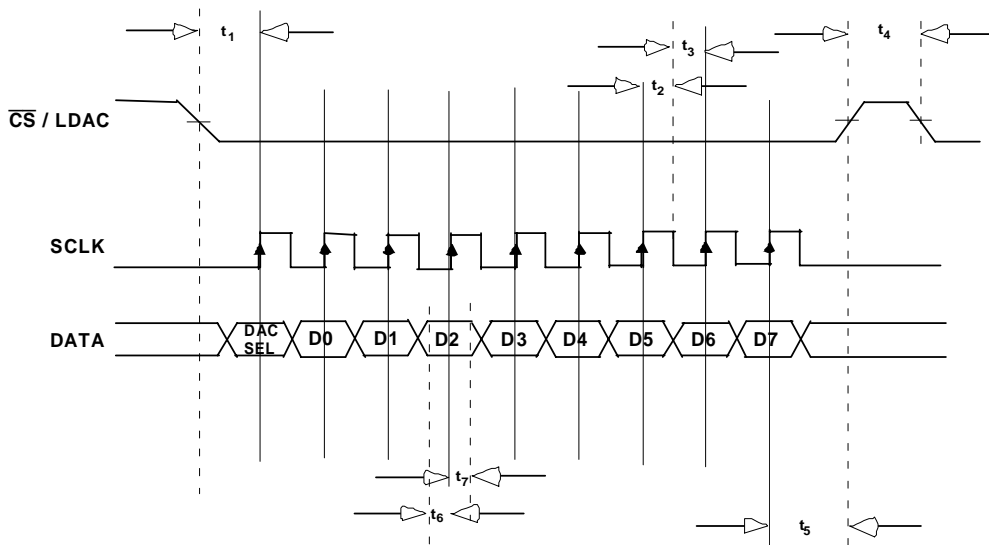

Figure 4. Serial Interface Waveforms
- See Timing Diagram in Figure 4.
This function is also shown in the waveforms in Figure 4 below. A falling edge on the CS/LDAC input initiates the data read into the shift register. The first bit of the datastream is the DAC Select Bit (DAC_SEL) which determines which internal DAC the data will be written to. A '1' selects DAC 1 which sets the Amplitude of the output and a '0' selects DAC 2 which sets the Centre Voltage of the output. The individual data bits are then read in one by one on the DATA line. After the DAC_SEL bit and the 8 data bits have been read there is a pause to ensure the shift register outputs are stable. Then a rising edge on the CS/LDAC input loads the 8 bits on the shift register outputs into the relevant DAC (and the DAC outputs will change accordingly). Note that if CS/LDAC goes high before all 8 data bits are read in then incorrect data will be loaded into the DACs. All bits on the DATA line are read in on each rising edge of the SCLK signal.